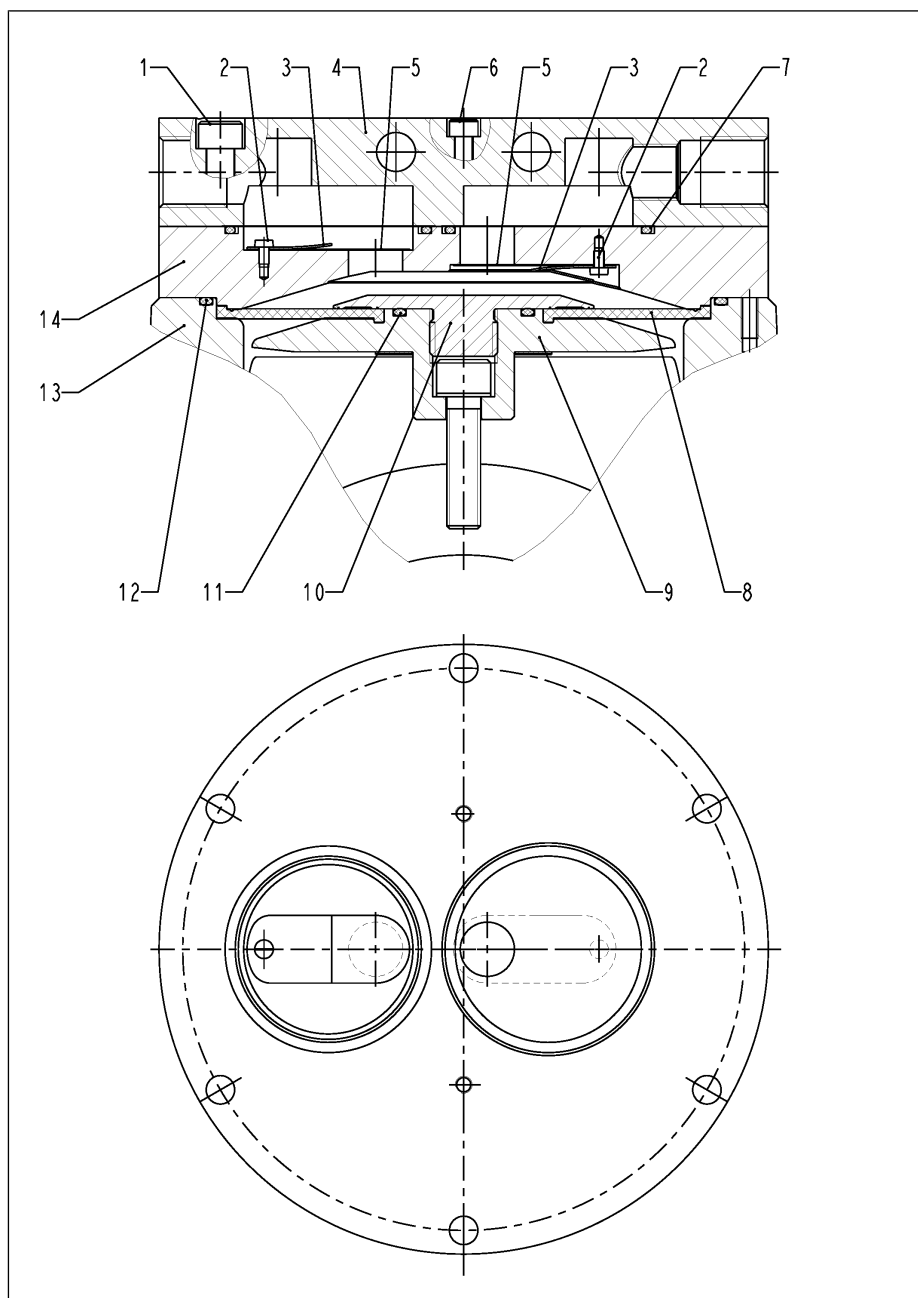

Fig.10 Individual parts of the pump head
\*\* According to Fig. 10
**i** The following item numbers refer to Fig. 10 unless specified otherwise.